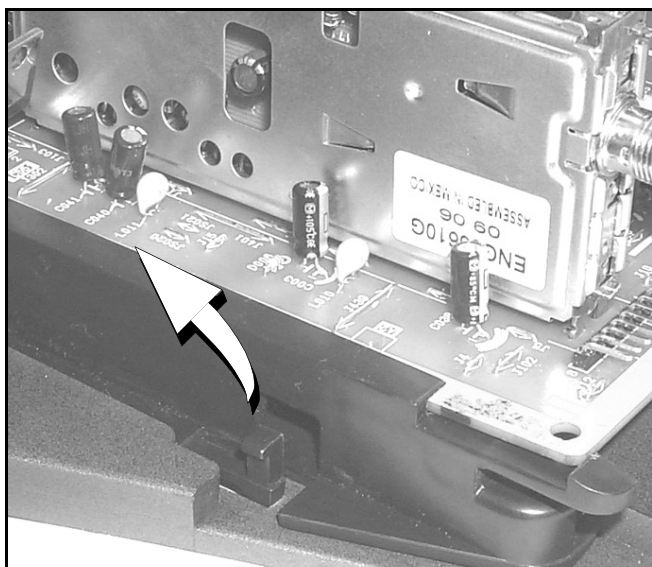

Figure 5. Chassis Rail Detail
1. Pull carefully the tab in the chassis rail, at the left side of the main chassis, this will release the rail from the cabinet. See Fig 5.